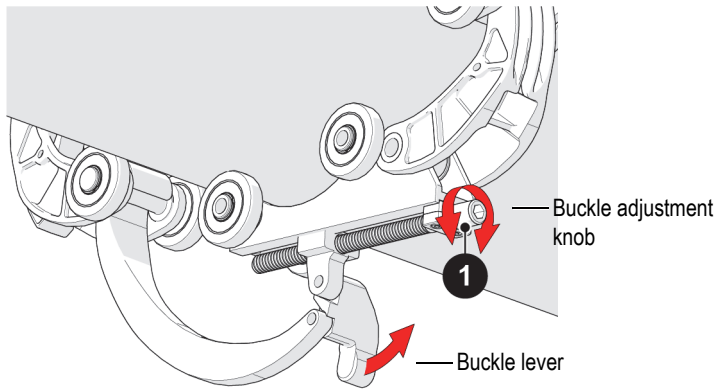

Figure 2-4 Buckle pressure adjustment
12. If required, loosen the buckle adjustment knob and the buckle lever to allow the arm to reach the catch link (see Figure 2-4 on page 34).
13. Rotate the buckle adjustment knob until you can push the buckle lever down, and lock the buckles in place (see Figure 2-4 on page 34).